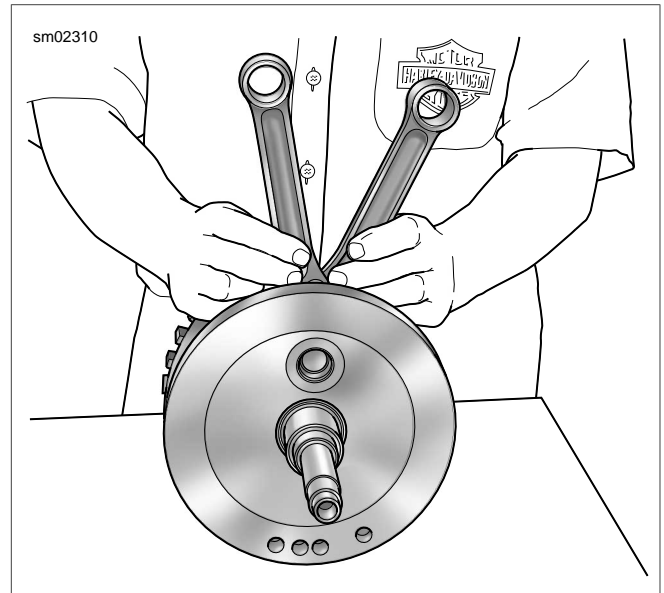

Figure 3-158. Connecting Rod Bearing Clearance
2. Check connecting rod bearing clearance. Orient the assembly as shown in Figure 3-158.